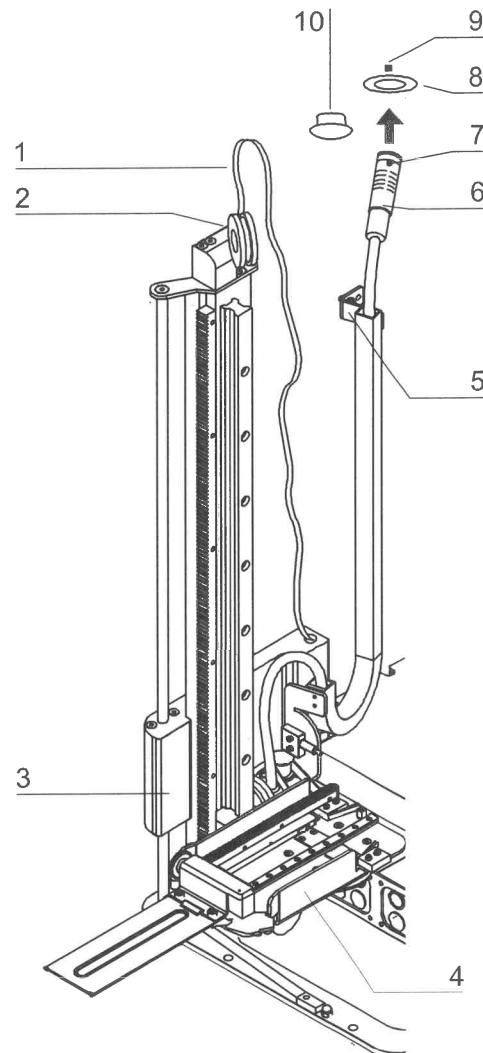

Fig. 17,
3. **Fig. 17:** Install the energy chain bracket [5] and secure it using the screws.